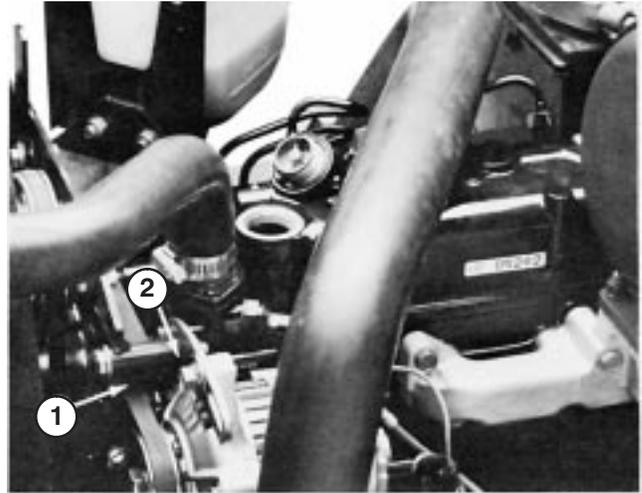

Figure 41
3. Loosen bolt securing brace to engine and bolt securing alternator to brace (Fig. 41).
2. Loosen bolts securing brace to engine and alternator to brace (Fig. 41).